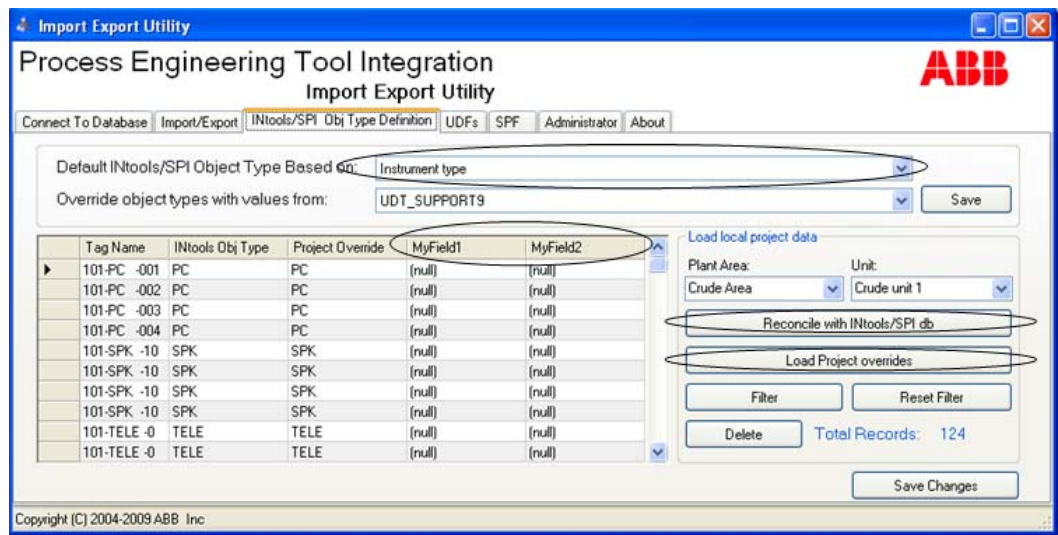

Figure 60. Object Type Definitions
The user can select Instrument Type, System IO Type, Instrument Type + System IO Type (uses an '_' to concatenate the two properties), or Control System Tags type from the drop down list as shown in Figure 60. The fields are available in INtools/SPI and are typically filled in (by EPC engineer) during engineering. Depending upon the user choice, the Product creates the object types, which can then be mapped to the object types in 800xA.
8. Select the **Load Project Overrides** button (Figure 60) to load the MS-Access database PETI.mdb from the local hard-disk. There are no records initially.
9. Select the **Reconcile with INtools/SPI db** button to obtain tag names and their object types from INtools/SPI database as shown in Figure 60. If records already exist within the PETI.mdb database then the fresh data from